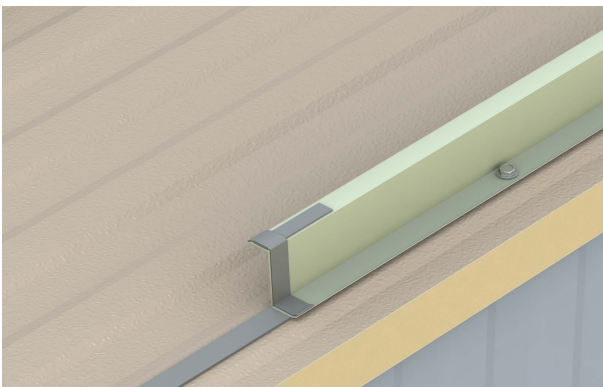

Figure 14.5
14.5 Apply butyl tape at downslope end of rake closure as shown in figure 14.5.